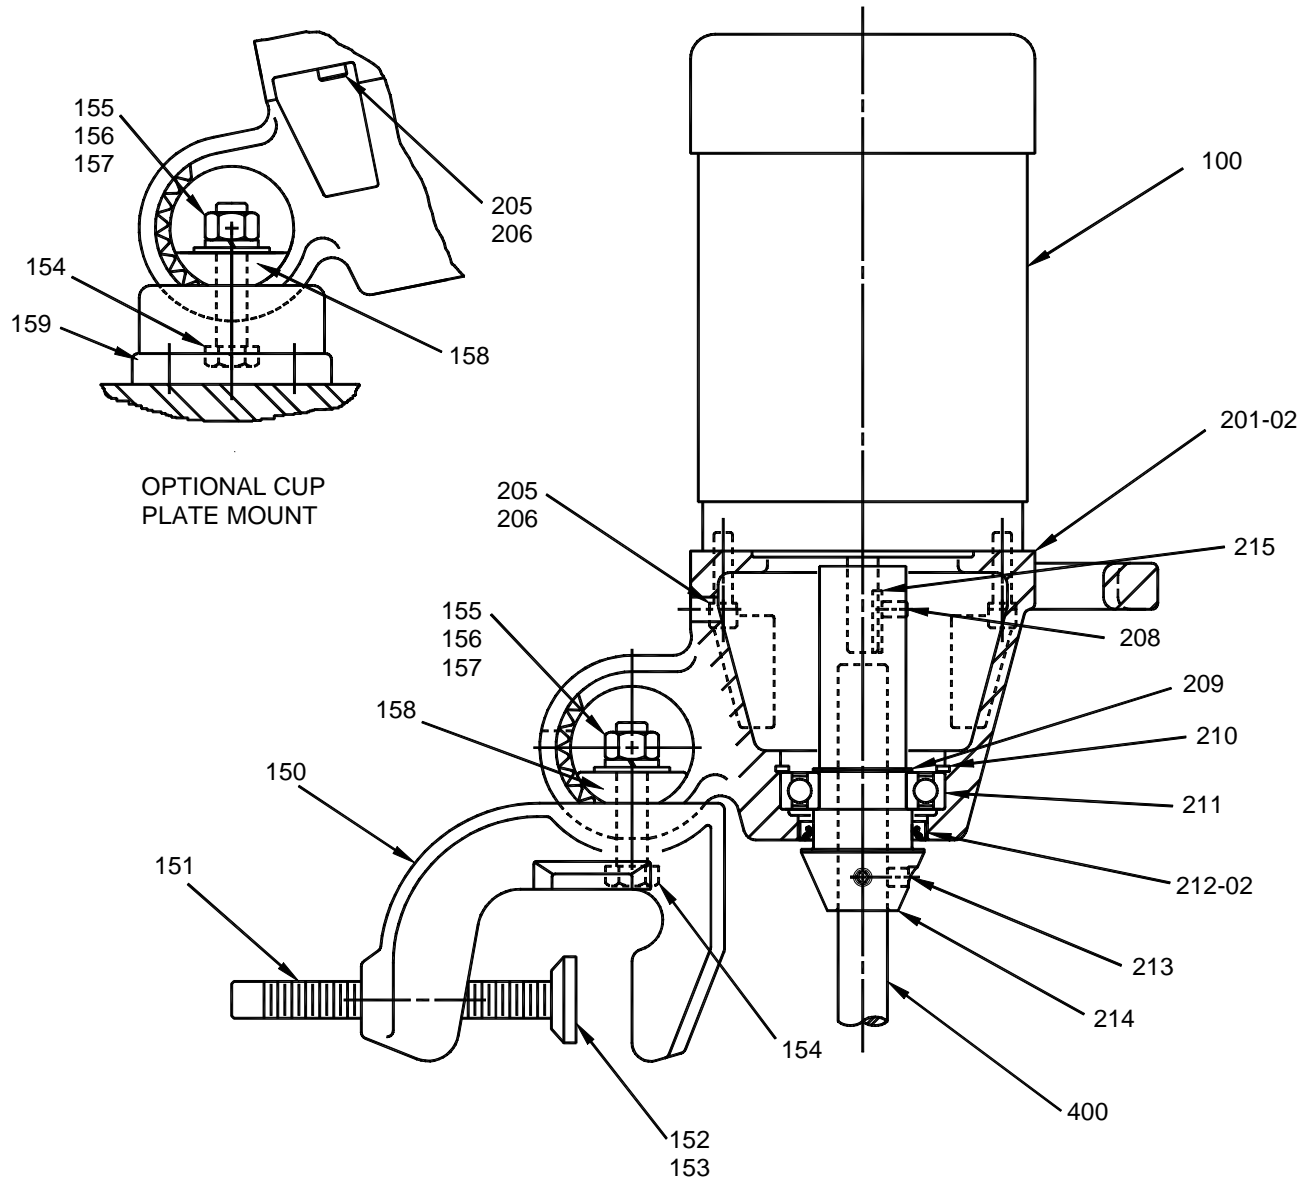
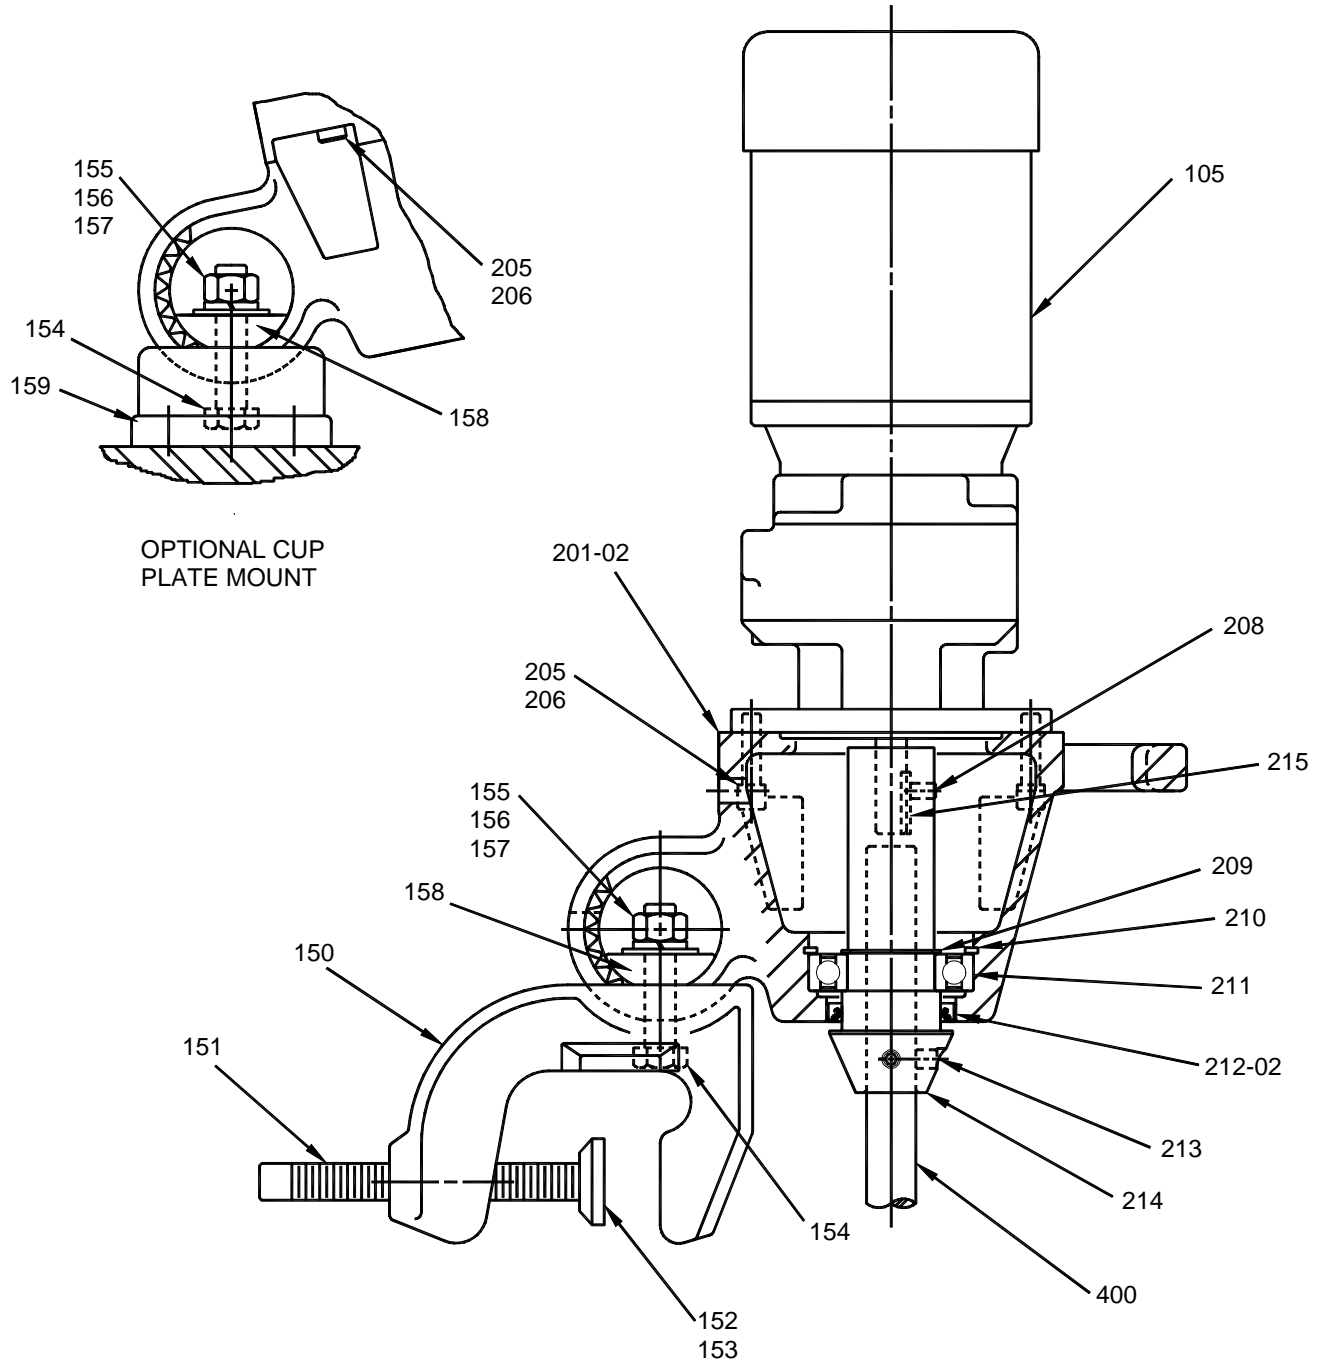

Figure 4: Model 30XPC
Figure 5: Model 40XPC
Figure 4: Model 30XPC .....	9
Figure 5: Model 40XPC .....	10
The model 30XPC is a direct drive, clamp or cup plate mount, portable mixer. The drive unit is typically shipped with the motor [100] and standard c-clamp [150] (or optional cup plate [159]) mounted to the cast aluminum housing [201-02]. A plated chuck drive shaft [214] coupling with bearing support extends from the housing for extension shaft attachment. Propellers [500] and all accessories are shipped in the main unit box. Shafting [400] is shipped separately. Refer to *Figure 4, page 9*.
The model 40XPC is a gear reduced, clamp or cup plate mount, portable mixer. The drive unit is typically shipped with the gearmotor (integral motor/gear reducer) [105] and standard c-clamp [150] (or optional cup plate [159]) mounted to the cast aluminum housing [201-02]. A plated chuck drive shaft [214] coupling with bearing support extends from the housing for extension shaft attachment. Propellers or impellers [500] and all accessories are shipped in the main unit box. Shafting [400] is shipped separately. Refer to *Figure 5, page 10*.
6. For 30XPC or 40XPC units, assemble the extension shaft **[400]** to the drive housing assembly **[200]** by inserting the shaft end with the machined recess and “flats” into the chuck coupling until the shaft bottoms out, approximately 5” (127mm). Orient the shaft to allow the chuck coupling setscrews **[213]** (two at 90°) to engage the “flats”. Refer to *Figure 4, page 9 and Figure 5, page 10*. Tighten chuck setscrews **[213]** with a 3/16” hex key wrench.